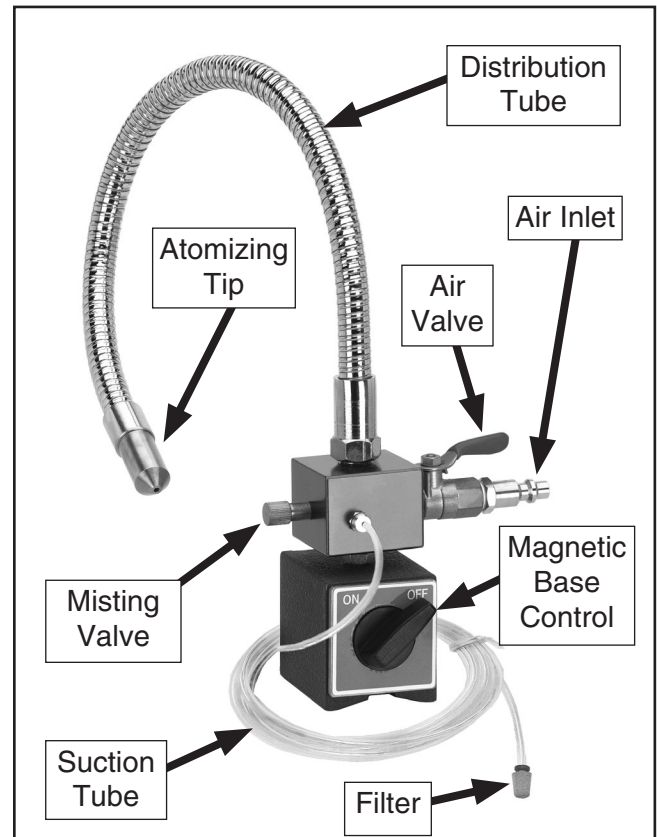

Figure 1. Magnetic misting unit inventory and controls.
1. Close the air flow and misting valves, and use the knob to apply the magnet and clamp the base to a metal surface (**Figure 1**).